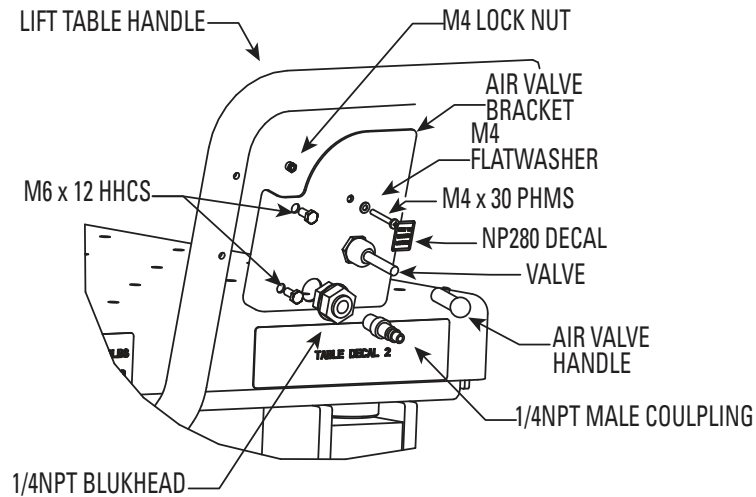

FIG. 3
- 4.) Attach Valve bracket using (2) M10 x 12 HHCS. Then attach valve to valve bracket using the handle nut and (1) M4 x 30 PHMS, (1) M4 flat washer & (1) M4 lock nut. Attach 1/4NPT bulkhead to valve bracket and 1/4NPT male coupler to bulkhead just attached. Attach the valve handle to the valve, and lastly attach (1) NP280 to valve bracket, slightly above and to the right of the valve. Fig. 3.